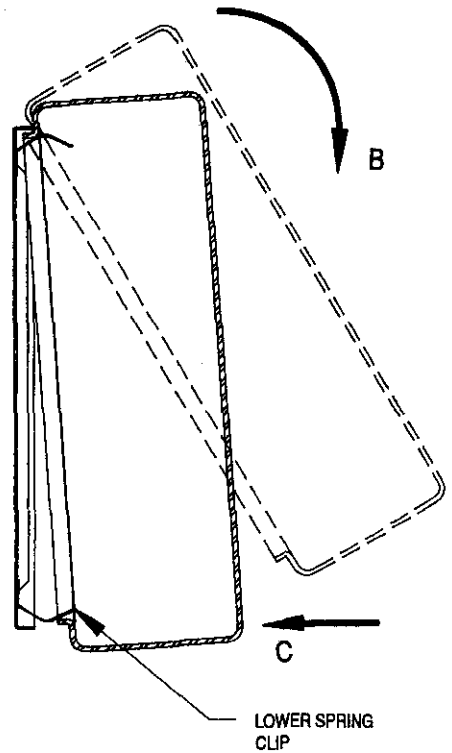

FIG. 3
2. Swing DIFFUSER down and gently push bottom of DIFFUSER over SPRING CLIPS until DIFFUSER snaps into place (Fig. 3).